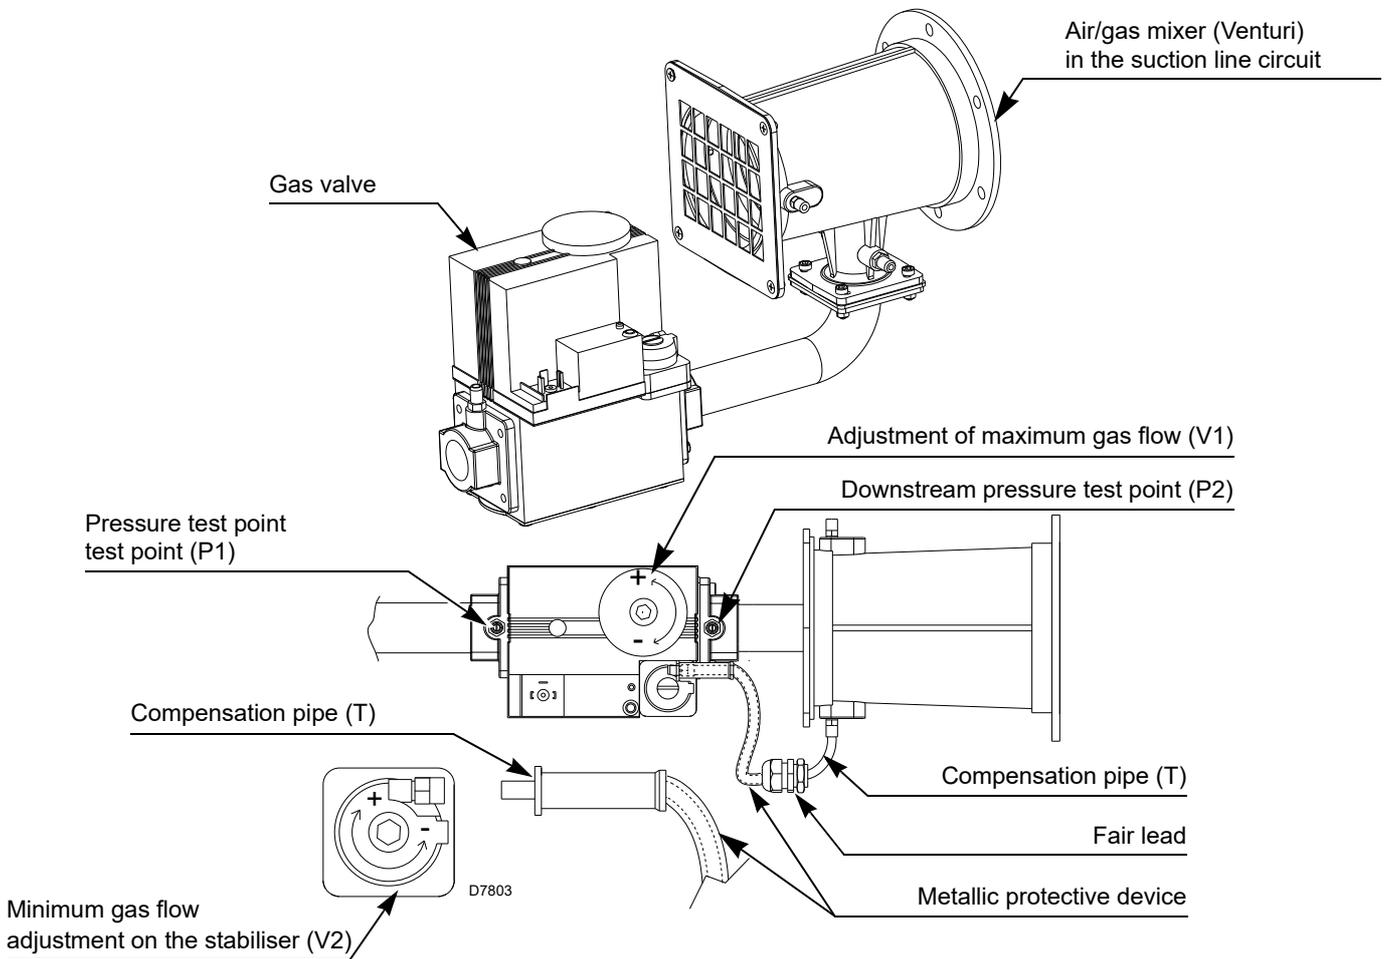

Fig. 20
The pipe (T)(Fig. 20) between valve-Venturi allows compensation to occur for accidental occlusion of the suction line due to a reduction in gas delivered.